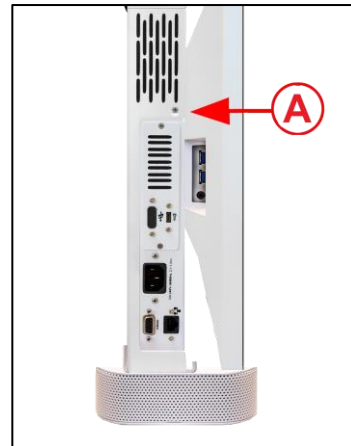

Figure 24. Removing Support Screw
To attach the Cisco Navigator support assembly, support screw (A) needs to be removed using a Philips screwdriver from the left-hand side of the system, as shown in Figure. 24.